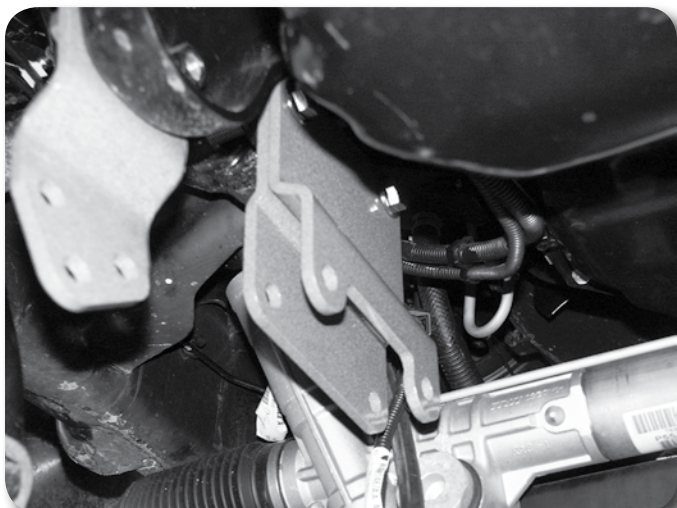

Figure 20
34. Install the two front driver's side differential drop brackets so that the bracket with the small offset is toward the outside of the vehicle (offsetting out) and the one with the bigger offset is on the inside (offsetting in). The brackets should taper down in height as they go toward the rear of the vehicle. **Figure 20** Fasten the brackets to the frame with two 1/2" x 2-1/2" bolts, nuts and 1/2" SAE washers. Leave hardware loose.